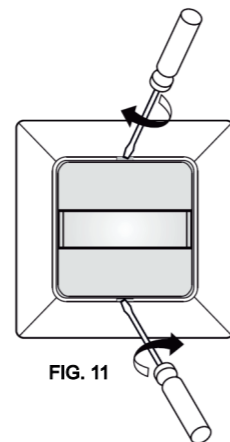

FIG. 11
To dismantle a fixed Mc Guard, please refer to FIG.10-A to FIG.10-C & FIG.11 and use the proper screwdriver to take off the covers.
4.1.1 Open the covers at upper and down the lens, you can see the slide switch and knobs. (See Fig 11 and 12) Adjust them as you desired.